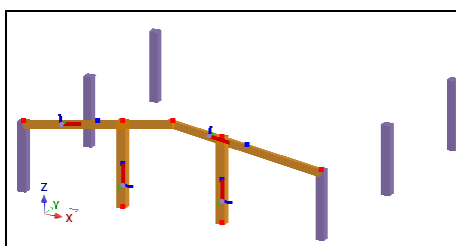

Figure 64: Selection of the beams and the columns
1. Select the two columns and the two beams (Figure 64).